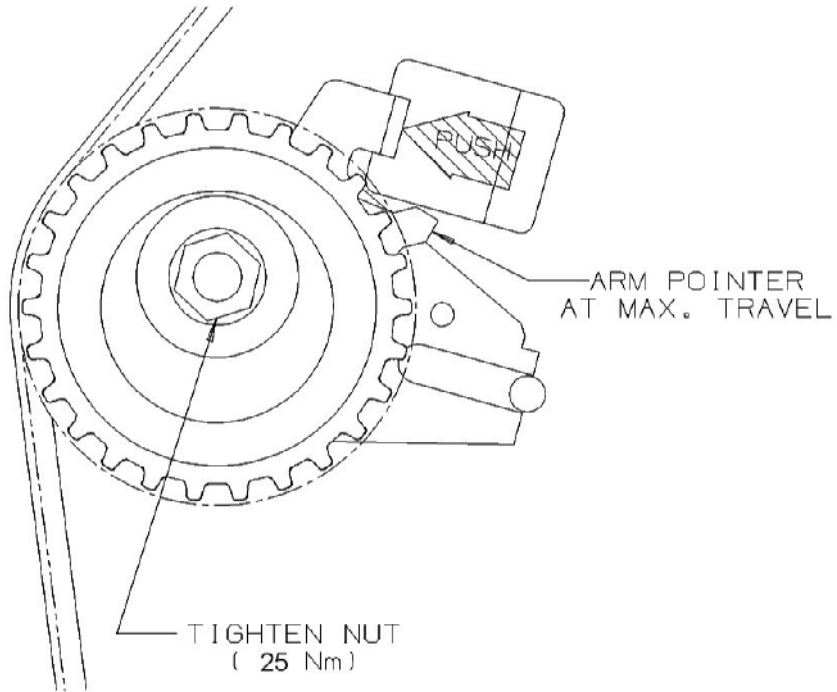

Figure 3: Proper initial setup of tensioner.
6. Push the tensioner into the belt with the installation tool. The Tensioner assembly will move against the belt and the *Arm* will eventually start to move **COUNTERCLOCKWISE**. Continue pushing the tensioner until its maximum travel position (See Figure 3).
8. Rotate the crankshaft two (2) complete revolutions manually for proper seating of the belt until the crankshaft is repositioned at the TDC position.